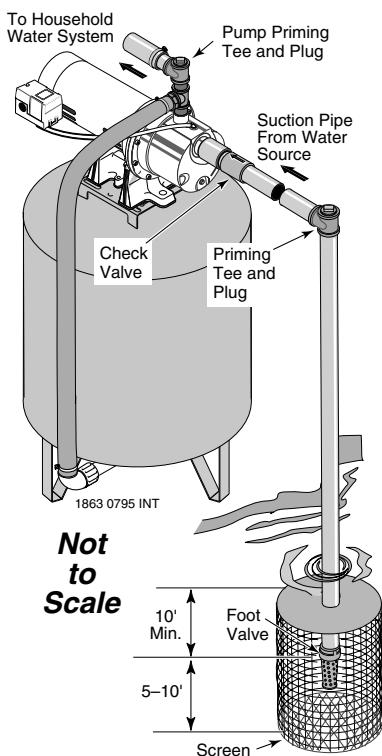

Figure 3: Surface Water Installation
## INSTALLATION FOR SURFACE WATER (Figure 3)
2. Assemble a foot valve and suction pipe (see Figure 3). Make sure that the foot valve works freely. Use teflon tape or a teflon-based pipe joint compound on threaded pipe joints. Protect the foot valve assembly from fish, trash, etc, by installing a screen around it (see Figure 3).
4. Install a priming tee, priming plug, and suction pipe to the pump (see Figure 3). Support the pipe so that there are no dips or sags in the pipe, so it doesn't strain the pump body, and so that it slopes slightly upward from the well to the pump (high spots can cause air pockets which can air lock the pump). Seal the suction pipe joints with teflon tape or a teflon based pipe joint compound. Joints must be air- and water-tight. *If the suction pipe can suck air, the pump cannot pull water from the well.*